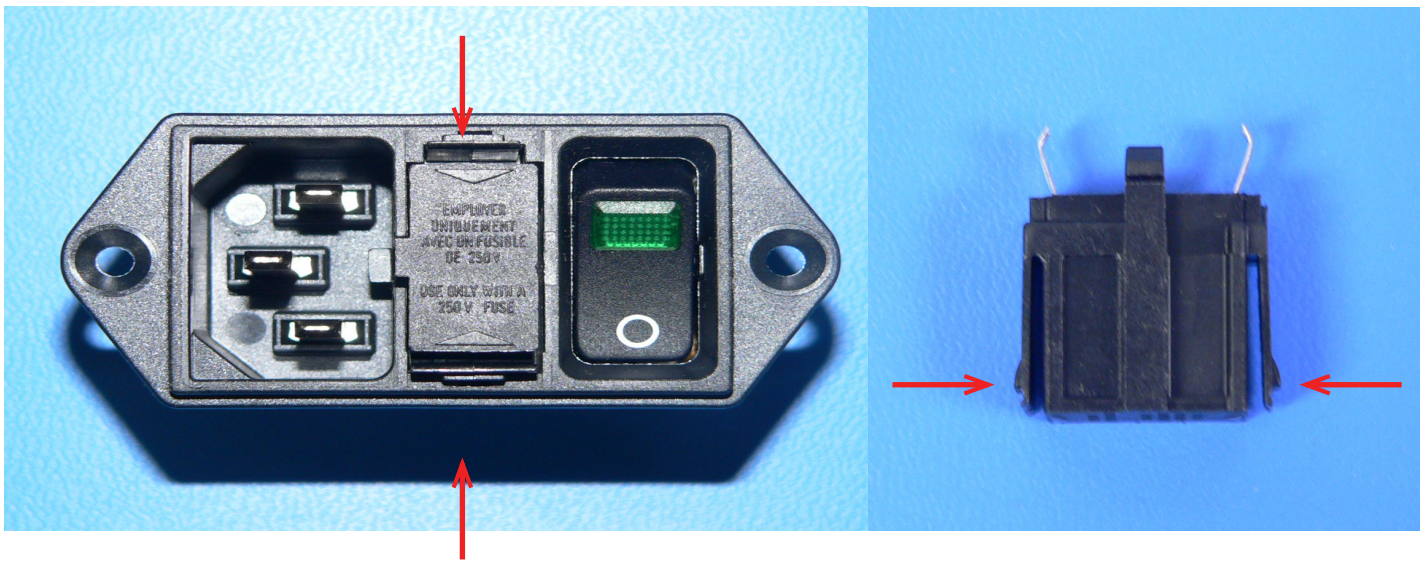

Figure 18: Fuse Box Tabs
2. Using the needle nose pliers, carefully extract the fuse box from the power entry module by squeezing down on the fuse box tabs in the slots as shown in Figure 18.